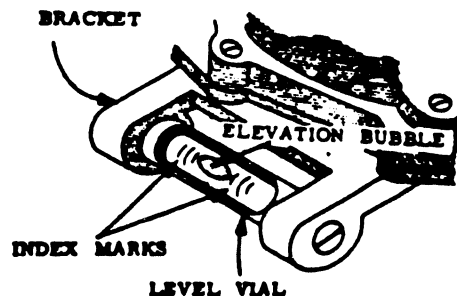

Fig 4-5. Elevation vial.
- (2) **Rough level**: You will remove any major cants from the gun by looking at the crosslevel bubble and moving the fixed leg in or out until the bubble just floats to the opposite side.
- (3) **Level the Elevation**: You level the elevation bubble by turning the elevation crank either up or down until the bubble is within the outside red lines (Fig 4-5).